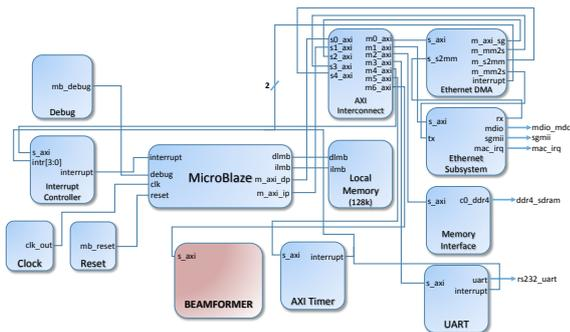
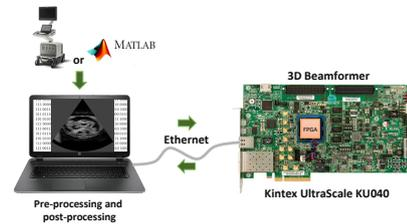

Fig. 1. FPGA diagram: *Beamformer* custom IP and support subsystems.
Fig. 3. The setup of the beamformer demo. The beamformer is implemented on a Kintex UltraScale KU040 FPGA [4].
In medical diagnosis, ultrasound (US) imaging is one of the most common, safe, and powerful techniques. Volumetric (3D) US imaging, an emerging technique, is even more attractive than standard 2D imaging, as it allows for imaging without the local presence of a trained sonographer finely positioning the probe. This would be particularly useful in rescue operations, remote areas and developing countries. Unfortunately, present-day 3D imagers are expensive, bulky and power-hungry, confining them to hospitals. There is therefore a strong motivation to develop efficient electronics to enable a portable US platform that is small, cheap, and battery-operated. Beamforming (BF) is the most computationally expensive of 3D imaging. Both commercial [1] and research [2] imagers have dealt with the challenge by reducing the number of receive channels, hence simplifying the computation through the usage of far fewer elements. This comes at the cost of image quality, and the resulting machines are nonetheless still non-portable and expensive. In turn, the bottleneck of the BF process is the calculation of acoustic delays, which requires up to trillions of square roots per second. We propose a drastically more efficient architecture [3]. With geometric considerations, each delay is calculated from a small set of square roots (mapped onto CORDICs), plus two additions. In this demo, we will show the reconstruction of a 2.5M-voxel volume, supporting a transducer with 32×32 receive channels. We have fitted the architecture into a single Kintex UltraScale KU040 [4], which is unprecedented. We also extrapolated the utilization of a 80×80 instance on a Virtex UltraScale XCVU190 [4]. Table I shows the implementation results. Fig. 1 shows our beamformer custom block connected to the other FPGA subsystems. The delay calculation architecture is shown in Fig. 2. The demo setup is presented in Fig. 3, where the 3D beamformer is implemented on the FPGA, while the pre- and post-processing stages are currently performed on Matlab.